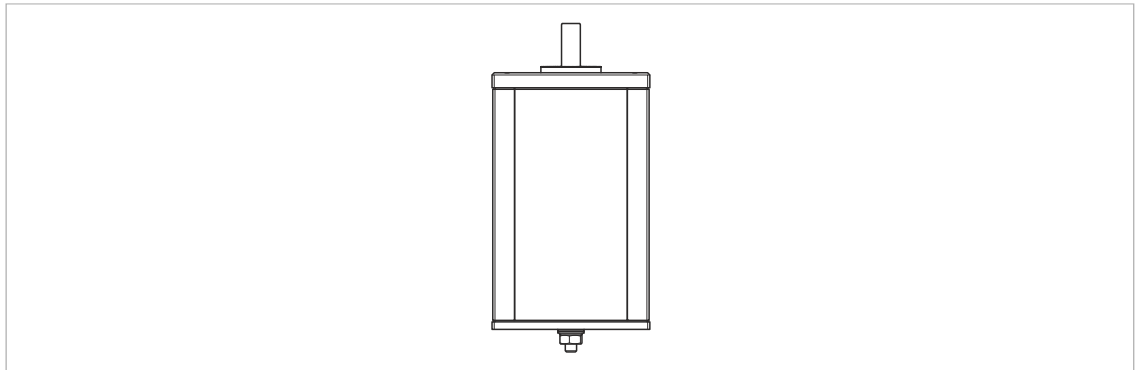

Fig. 6: V3 installation
- ▶ If the system is installed to V3 format (see Fig. 6), make sure that no liquids can penetrate into the bearings.